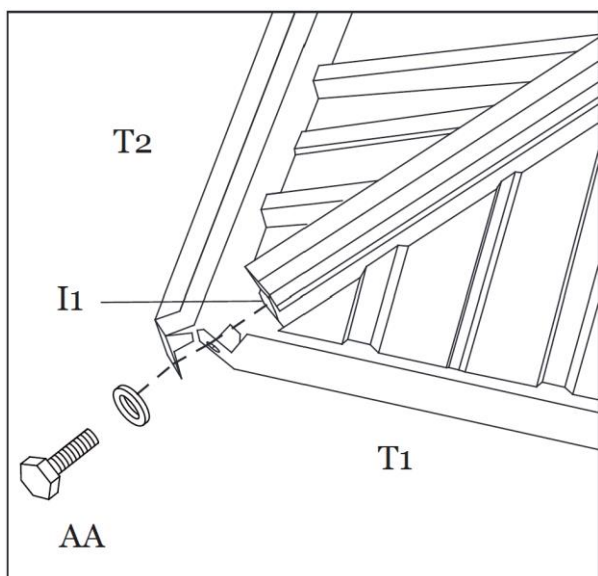

Figure 18-1
Step 18A: Attach the Roof Trim (T1 and T2) to the Main Roof Corner Support (I1) using Bolts (AA). See Figure 18-1.